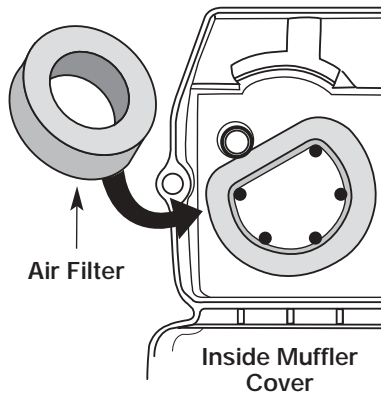

Figure 22
2. Turn cover over and look inside to locate the air filter. Remove the air filter from inside the air filter/muffler cover. See Figure 22.
6. Replace the air filter inside the air filter/muffler cover. See Figure 22.